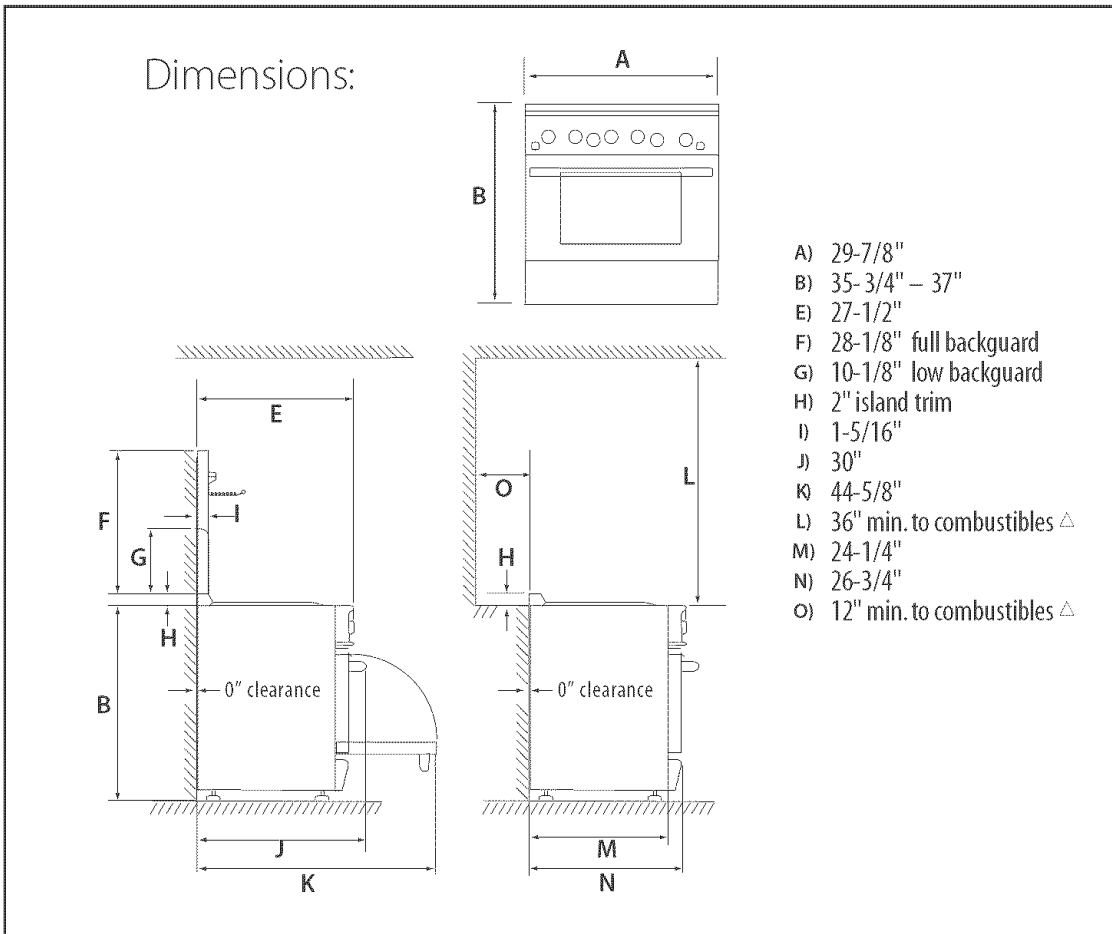

FIG. 5
2. The range can be placed in various positions with respect to the cabinet front, with the front either flush or projecting, depending on the countertop depth (See Fig. 5, page 6).
6. When there is less than a 12" clearance between combustible material and the back edge of the range, (above the cooking surface) a DCS Backguard must be installed (see Fig. 5). The range comes equipped with Island Trim as standard. Fig.5 indicates the space required for each type of backguard.